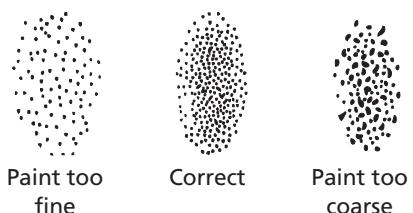

Figure 6 - Pattern consistency
- Trigger a short burst while turning fluid control knob counterclockwise. Observe the spray pattern on the target and adjust the fluid control knob until the desired pattern (atomization) is obtained (See Figure 6).